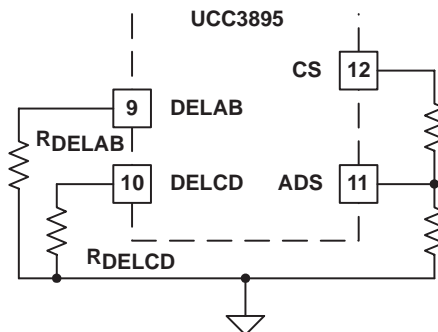

Figure 4. Programming Adaptive Delay Set
The adaptive delay set feature (ADS) allows the user to vary the delay times between switch commands within each of the converter’s two legs. The delay-time modulation is implemented by connecting ADS (pin 11) to CS, GND, or a resistive divider from CS through ADS to GND to set V_{ADS} as shown in Figure 4. From equation (6) for V_{DEL}, if ADS is tied to GND then V_{DEL} rises in direct proportion to V_{CS}, causing a decrease in t_{DELAY} as the load increases. In this condition, the maximum value of V_{DEL} is 2 V.